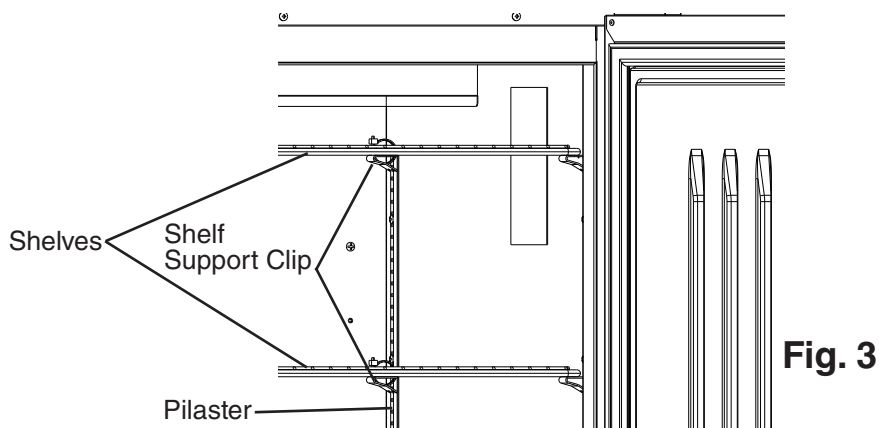

Fig. 3
- 1) For each shelf, place the shelf support clips into the pilasters at the desired height (4 shelf support clips per shelf). See Fig. 3.